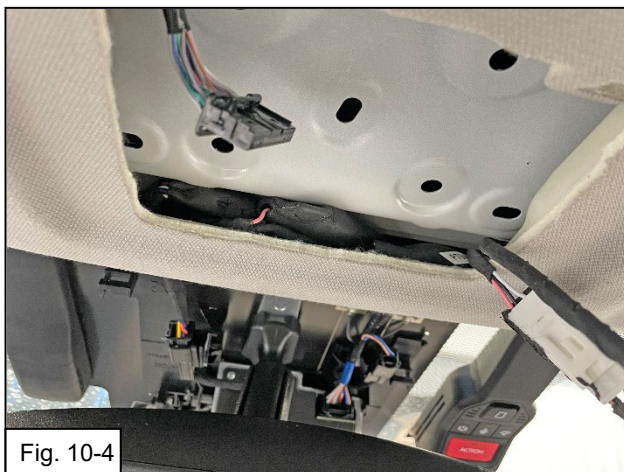

Fig. 10-4
(5) Pull the remaining slack harness back into the headliner / map light console area as per the image. Arrange the fuse holders towards the front edge of the map light opening. (Fig. 10-4)